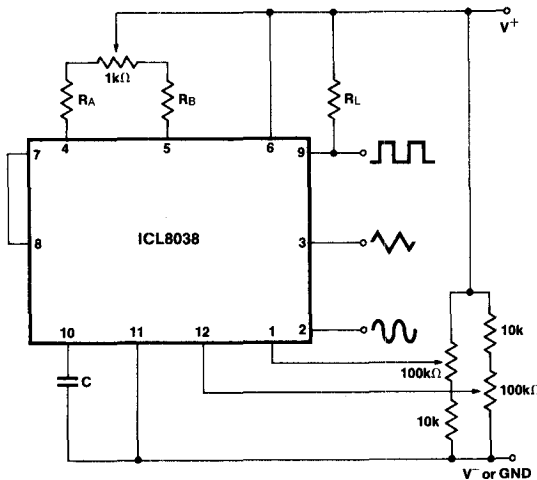

Figure 2: Connection to Achieve Minimum Sine-Wave Distortion.
**NOTE 5:** Over operating temperature range, Fig. 2, pins 7 and 8 connected, VSUPP = ±10V. See Fig. 6c for T.C. vs VSUPP.
**NOTE 1:** The hi and lo frequencies can be obtained by connecting pin 8 to pin 7 (fhi) and then connecting pin 8 to pin 6 (flo). Otherwise apply Sweep Voltage at pin 8 ( $2/3 V_{SUPP} + 2V$ )  $\leq V_{SWEEP} \leq V_{SUPP}$  where  $V_{SUPP}$  is the total supply voltage. In Fig. 2, pin 8 should vary between 5.3V and 10V with respect to ground.
To minimize *sine-wave* distortion the 82k $\Omega$  resistor between pins 11 and 12 is best made variable. With this arrangement distortion of less than 1% is achievable. To reduce this even further, two potentiometers can be connected as shown in Figure 2; this configuration allows a typical reduction of sine-wave distortion close to 0.5%.